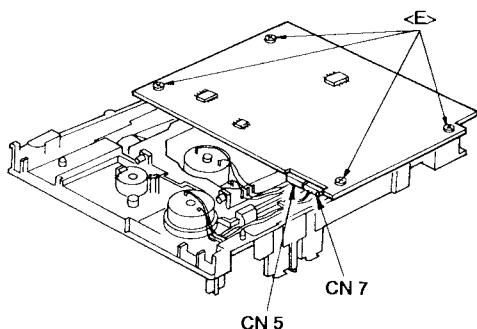

Figure 23
- (6) Turn the CD-ROM Drive Unit upside down and remove four screws <E> (2.6 × 8 mm) as shown in Figure 23.
- (7) Disconnect two connectors (CN 5, CN 7) as shown in Figure 23.